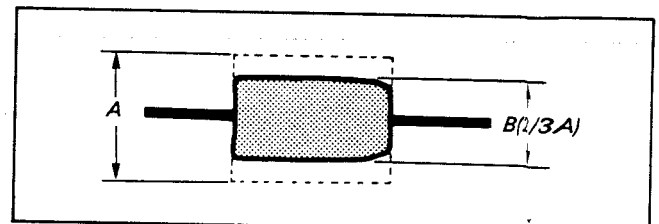

Fig. 4-14
- 4) Set the SEL switch of the track shift & monitor jig to ON, then turn the track shift knob until the RF waveform amplitude is 2/3. (Fig. 4-14)